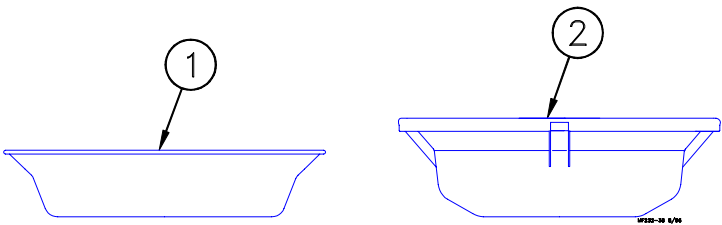

Figure 2. Feeder Pans (side view)
2. Determine which Feeder Pan (Adult Turkey or Stage II) is to be installed. See Figure 2. Refer to the appropriate section below.